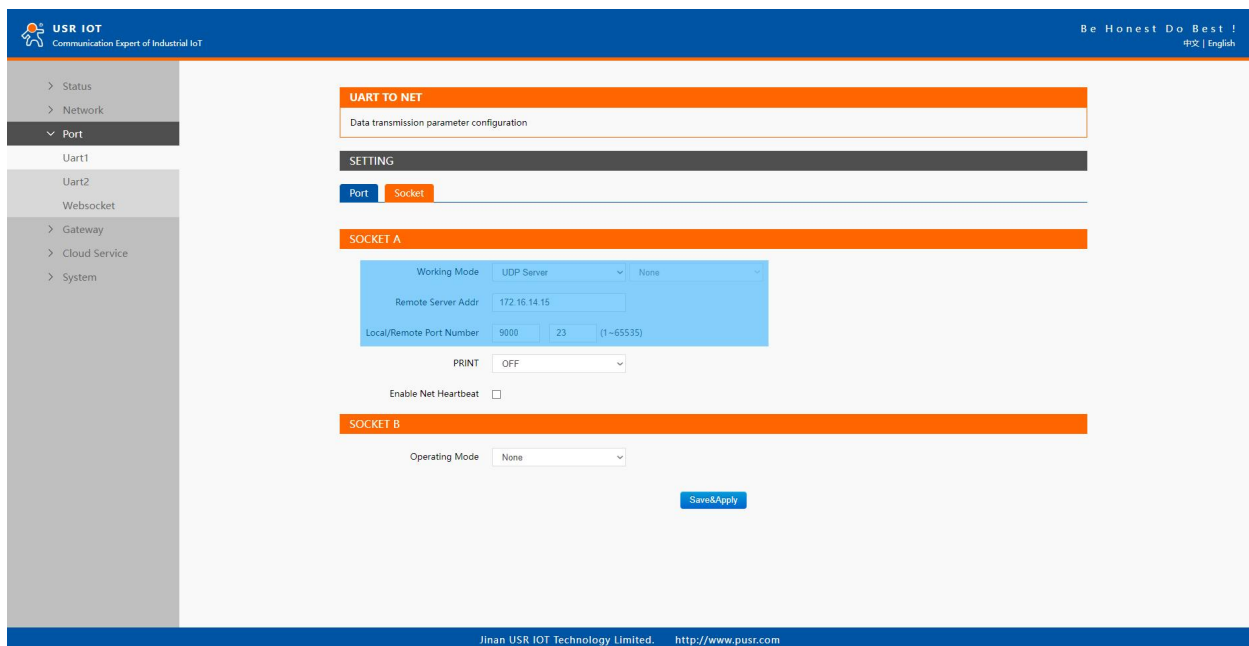

Fig. 42 UDP server work mode
Fig.42 shows an example of configuration setting for UDP Server mode under the Uart1 socket page. You can configure other serial ports in the same way.
1. Click on the "Uart1" tab on the menu frame on the left side of Web UI to go to Uart1 page as shown in Fig.42.